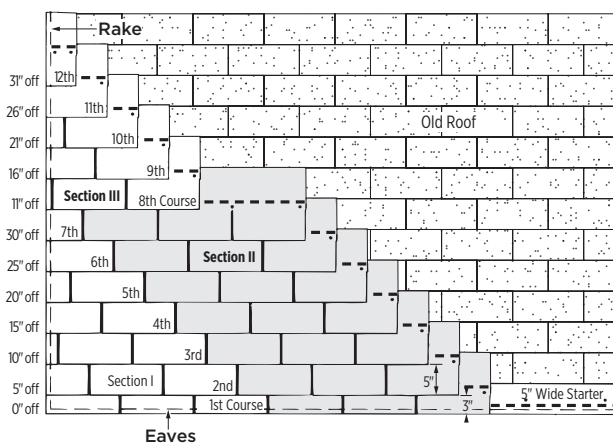

Figure 10-16: Five Off, Twelve Up, Nested.
1ST COURSE: The first course is made of 10" by 36" shingle strips made by cutting 2" off the bottom of the tabs of regular shingles. Align the top edge of the strips so they butt up against the tabs of the shingles in the old third course (Figure 10-16).
1. Begin the second course by cutting 5" off the left end of a shingle and aligning the top edge with the butt edge of the shingle in the old fourth course (Figure 10-16).
1. Begin the eighth course by cutting 11" off the left end of a shingle and applying the 25" piece over the seventh course shingle, aligned with the left edge of the seventh course (Figure 10-16).